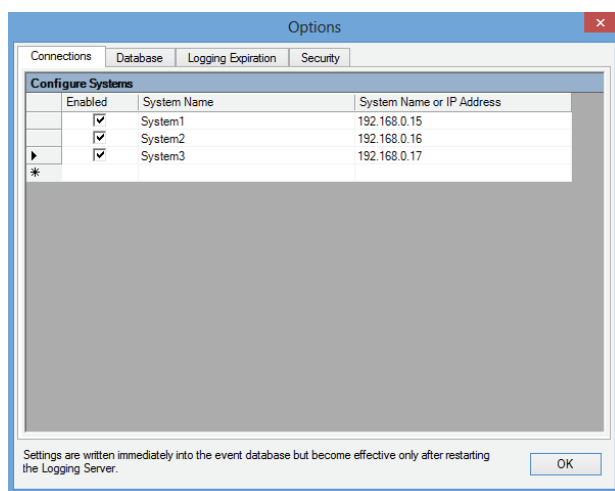

figure 58.10: Delete a system (2)
- 2 On the keyboard of the PC on which the *Logging Server* is running, press the *Del* key. The system is removed from the list (see figure 58.10 for an example).